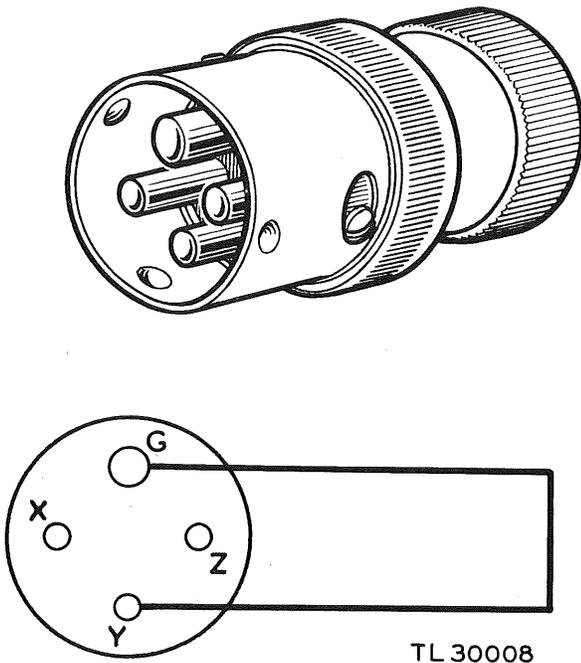

Figure 65. Plug PL-217
a. Plug PL-217 is a four-pole Everlok male plug, used to close the interlock system when Keying Unit BC-409 or BC-409-A is being tested (fig. 65). Terminals Y and G are connected together. When used, the plug is inserted in the keyer receptacle labeled TO MODULATOR.